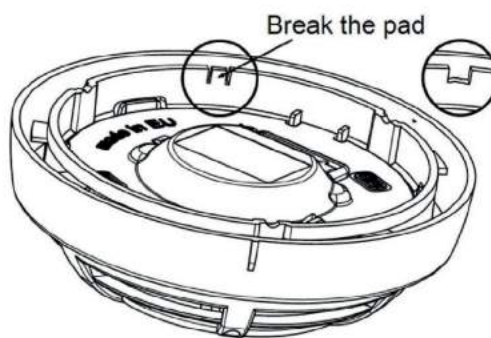

Fig.3
- > Break the plastic at the specified location on the bottom of the sensor (Figure 3).